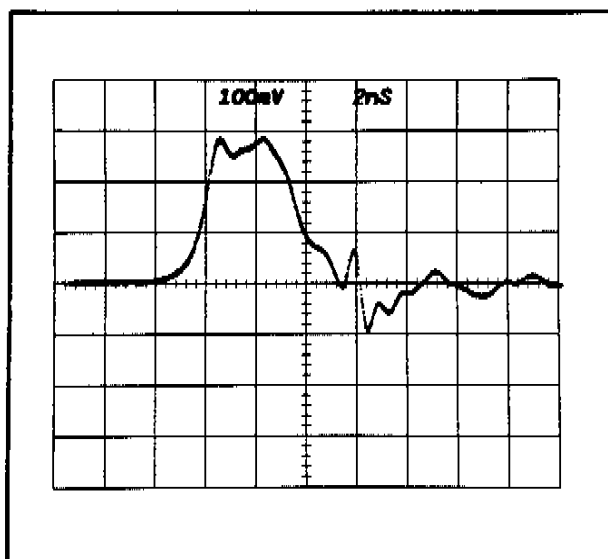

Fig. 5-1. Pretrigger Out.
b. Set the 7T11 Trig Level for a stable display and use the Time Position control to position the PRETRIG OUT display to the left edge of the graticule. Change the 7T11 Time/Div to 2 ns for a display of the PRETRIG OUT signal. See Fig. 5-1.
- c. Set the 7T11 Trig Level for a stable display and use the Time Position control to position the Pretrigger Out display to the left edge of the graticule. Change the 7T11 Time/Div to 2 ns for a display of the Pretrigger Out signal. See Fig. 5-1.